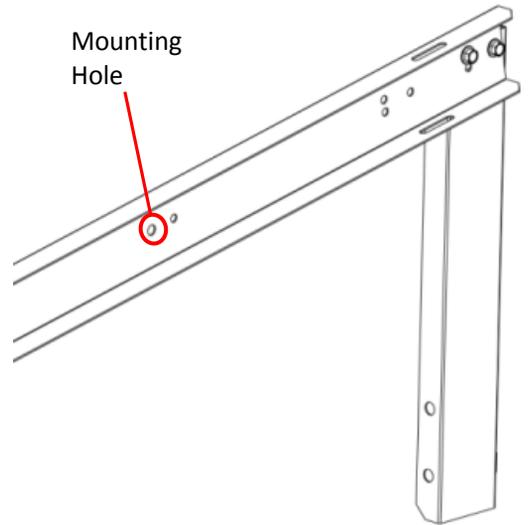

Figure 22a
Attach the inverter/optimizer to the support rail using one (1) $\frac{5}{16}$ " bolt, two (2) $\frac{5}{16}$ " washers and one (1) $\frac{5}{16}$ " hex nut. Reference figures 22a, 22b and 22c.